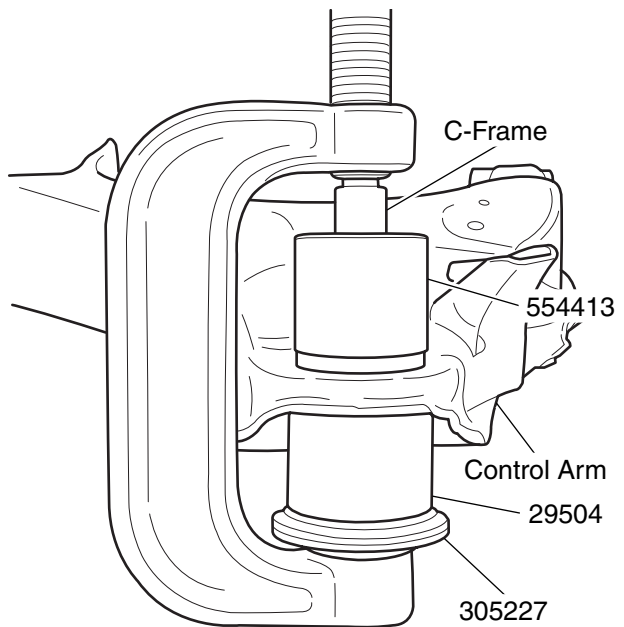

Figure 3. Ball Joint Installation
3. Position 29504 and 305227 (or 39976 or 531739 alone) on the ball joint as shown in Figure 3.